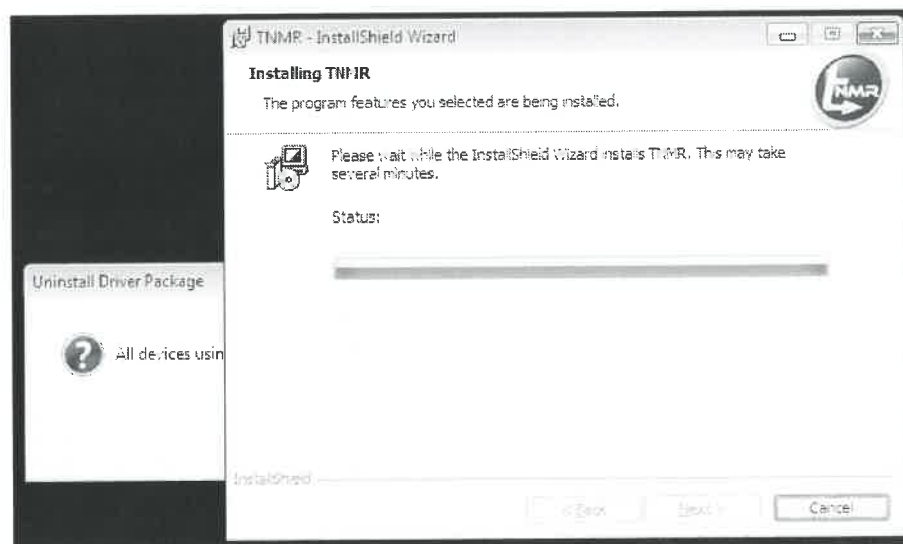

Figure 12
12. During the installation process, if applicable, previous installations of NTNMR or TNMR will be uninstalled including device drivers. The driver uninstallation notification window may appear **behind** the “Installing TNMR” window. If it appears that the setup process has stalled, try moving the top window to look for the driver window. (See Figure 12)